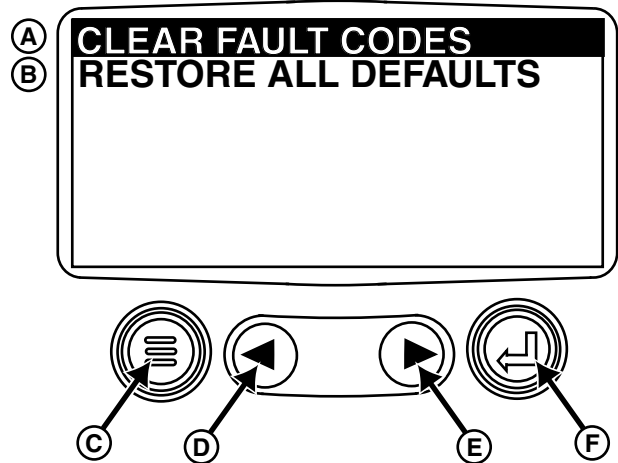

Figure 1. Clear Stored Fault Codes Screen
2. Turn power to diagnostic gauge ON. As soon as screen backlight comes on, simultaneously press and hold MENU (C) and ENTER (F) keys. See figure 1.
3. If successful, the screen shown in figure 1 appears.
NOTE: If the screen in figure 1 does not appear, repeat step 2. This may take several attempts due to the short timing window.